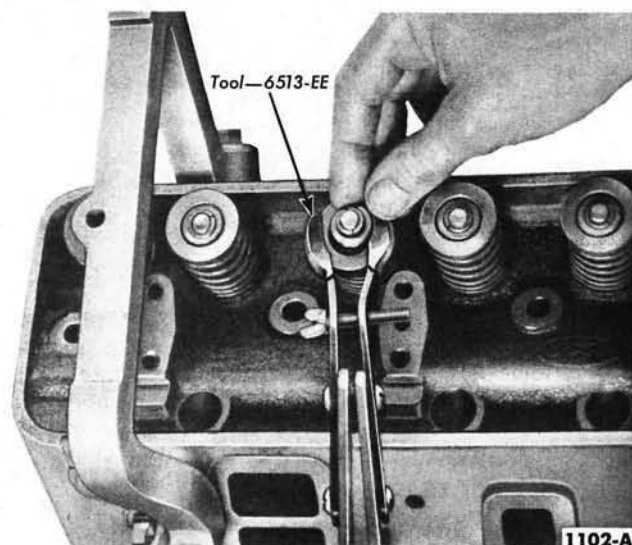

FIG. 20—Valve Spring Retainer Locks—Removal or Installation
1. Remove the spark plugs. Clean deposits out of the cylinder head combustion chambers before removing the valves. Compress the valve springs (Fig. 20), then remove the valve spring retainer locks, and release the spring.
4. Compress the spring and install the retainer locks (Fig. 20).